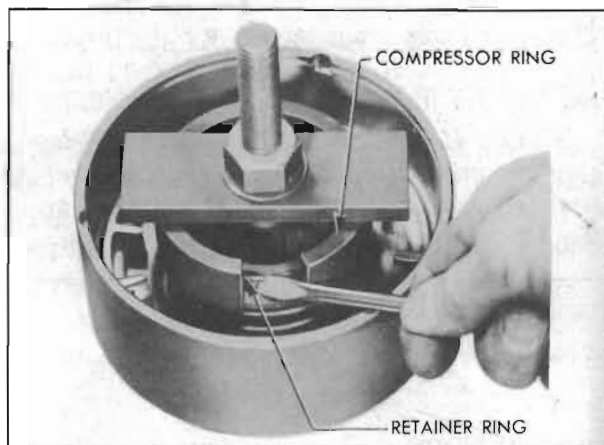

Figure 4-111—Using Clutch Spring Compressor J 2590
ring. Compress clutch spring sufficiently to remove the retaining ring. See figure 4-111.
2. Place clutch spring in piston and place spring seat and seat retaining ring on spring. Install Clutch spring Compressor J 2590 (fig. 4-111) and compress spring until the retaining ring can be snapped into the groove in hub of drum, then remove the spring compressor.